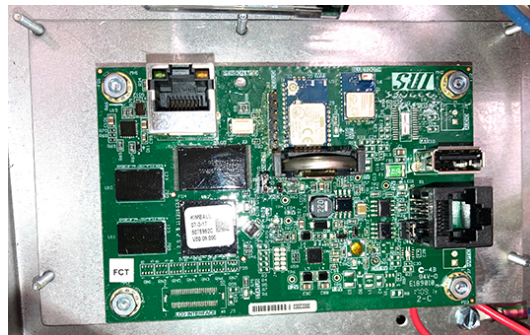

Figure 42
53. Slide the mounting plate onto the studs in the control box (see Figure 42) and secure with nuts.